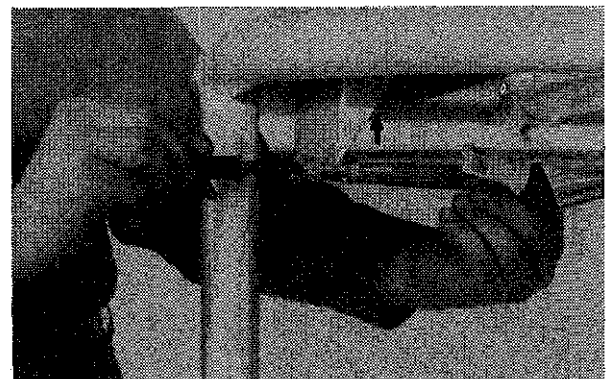

Figure12
- Step 13 Install the cable under the lower shelf of the center module as shown in figure 12. Use a 5/8" and 11/16" open end wrenches to tighten the cable in place.